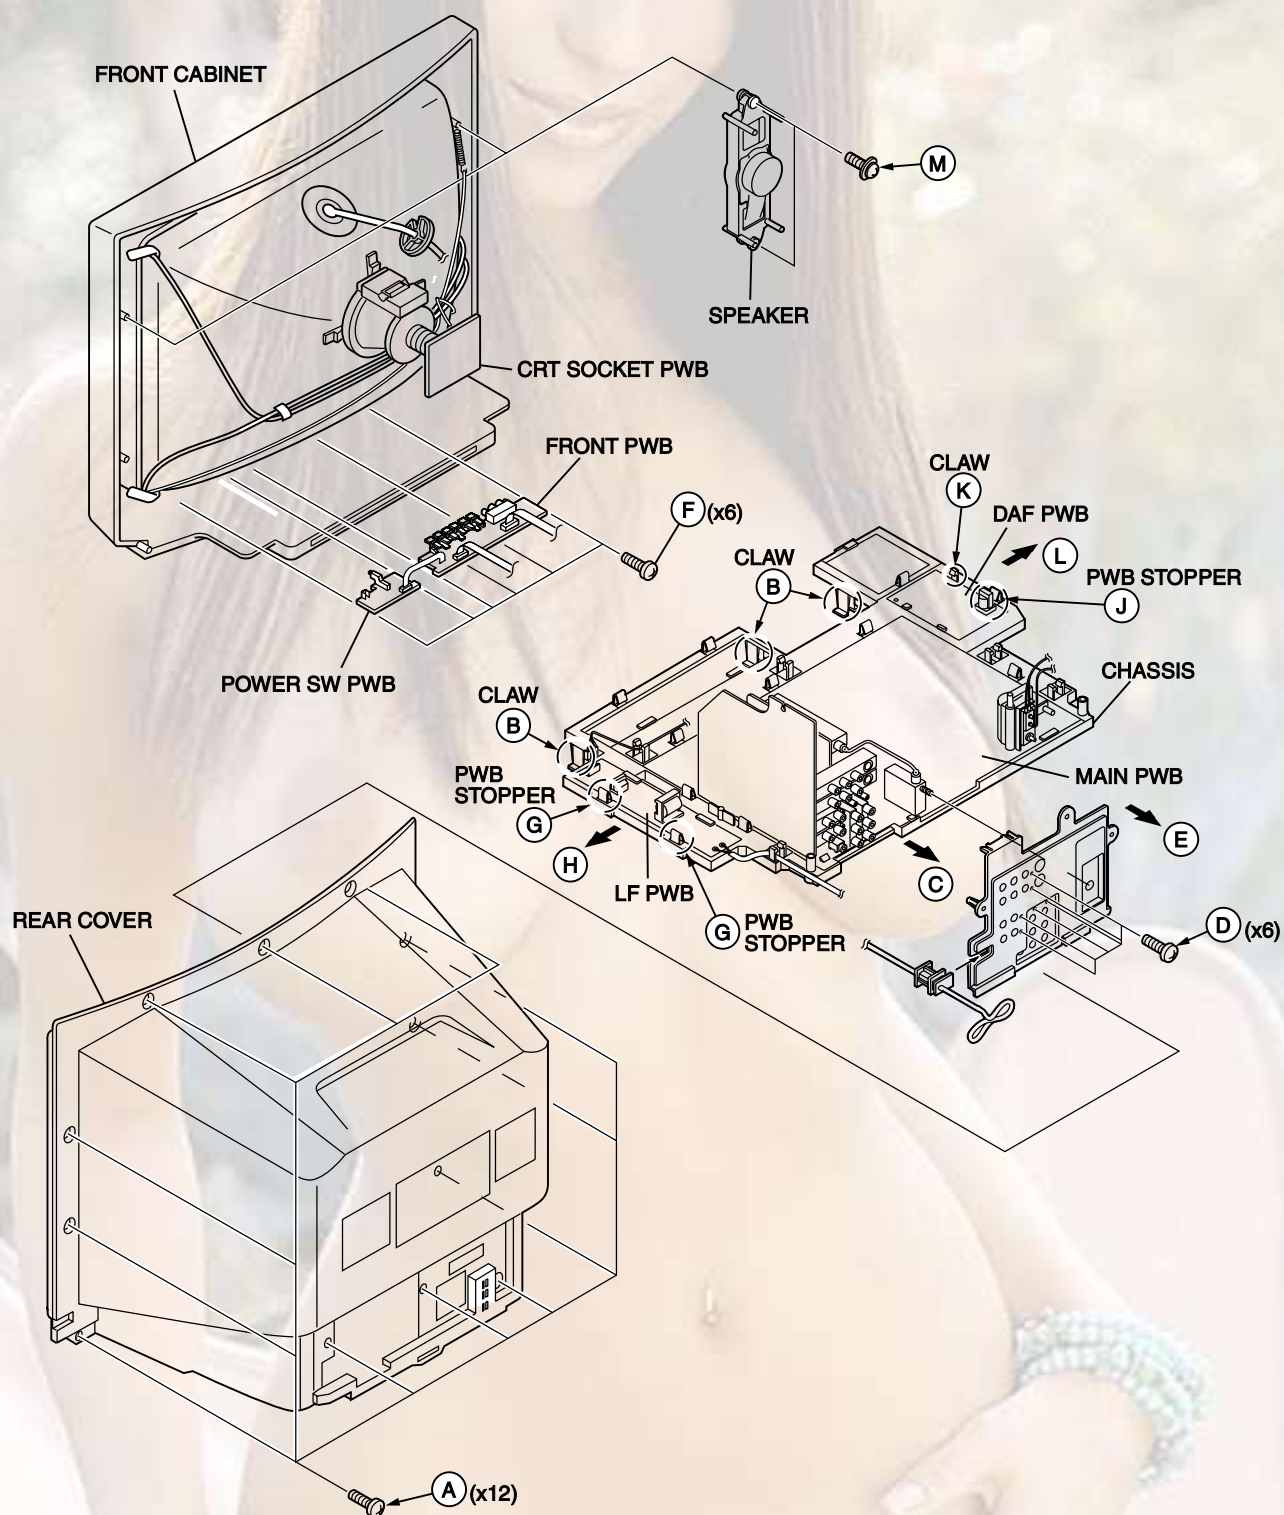

Fig.1
2. Remove the 12 screws marked **(A)** as shown in Fig.1.
1. Slightly raise the both sides of the chassis by hand and remove the 3 claws marked **(B)** under the chassis from the front cabinet as shown in Fig.1.
2. Withdraw the chassis backward along the rail in the arrow direction marked **(C)** as shown in Fig.1.
1. Remove the 6 screws marked **(D)** as shown in Fig.1.
2. When you pull out the TERMINAL BOARD in the direction of arrow marked **E** as shown in Fig.1, it can be removed.
1. Remove the 6 screws marked **(F)** as shown in Fig.1.
1. Lift the left side of the LF PWB while pressing the 2 PWB stoppers marked **(G)** in the arrow direction marked **(H)** as shown in Fig.1.
1. Lift the right side of the DAF PWB while pressing the PWB stopper marked **(J)** and claw marked **(K)** in the arrow direction marked **(L)** as shown in Fig.1.
1. Remove the 2 screws marked **(M)** as shown in Fig.1.
(1) Power off Switch off the power and disconnect the power cord from the outlet.
(2) Replace the memory IC Initial value must be entered into the new IC.
(3) Power on Connect the power cord to the outlet and switch on the power.
(4) System constant check and setting 1) Press SLEEP TIMER key and, while the indication of "SLEEP TIMER 0 MIN." is being displayed, press DISPLAY key and VIDEO STATUS key on the remote control unit simultaneously. 2) The SERVICE MENU screen of Fig.1 is displayed. 3) While the SERVICE MENU is displayed, again simultaneously press the DISPLAY and VIDEO STATUS keys to display the Fig.2 SYSTEM CONSTANT screen. 4) Refer to the SYSTEM CONSTANT table and check the setting items. Where these differ, select the setting item with the MENU UP/DOWN key and adjust the setting with the MENU LEFT/RIGHT keys. (The letters of the selected item are displayed in yellow.) 5) After adjusting, release the MENU LEFT/RIGHT key to store the setting value. 6) Press the EXIT key twice to return the normal screen.	 The SERVICE MENU screen displays two columns of settings. The left column includes PICTURE, THEATER, PIP, LOW LIGHT, RF AFC1, and VCO(CW). The right column includes SOUND, OTHERS, 3-D Y/C, HIGH LIGHT, RF AFC2, and I2C BUS CTRL. At the bottom, there are controls for SELECT BY (up/down arrows), OPERATE BY (left/right arrows), and EXIT BY (EXIT key icon).
(5) Receive channel setting Refer to the OPERATING INSTRUCTIONS(USER'S GUIDE) and set the receive channels (Channels Preset) as described.
(6) User settings Check the user setting items according to Table 2. Where these do not agree, refer to the OPERATING INSTRUCTIONS (USER'S GUIDE) and set the items as described.	 The SYSTEM CONSTANT screen displays a list of settings with their current values. MODEL is set to *****. TM CORR. is NO. CCD is YES. V-CHIP is YES. CAN V-CHIP is NO. At the bottom, there are controls for SELECT BY (up/down arrows), OPERATE BY (left/right arrows), and EXIT BY (EXIT key icon).
(7) SERVICE MENU setting Verify what to set in the SERVICE MENU, and set whatever is necessary.(Fig.1) Refer to the SERVICE ADJUSTMENT for setting.